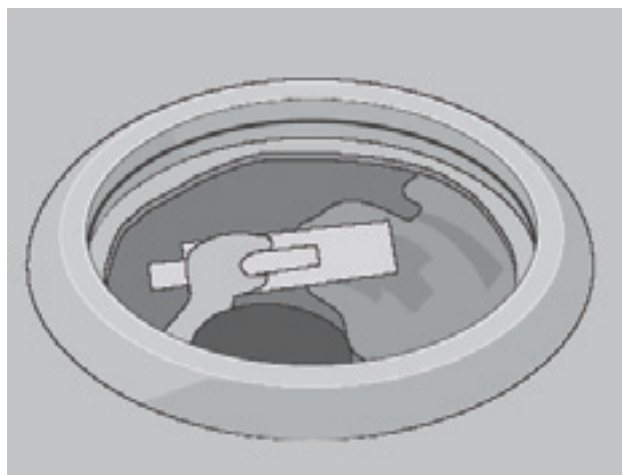

Fig. 43: Applying a final layer of mortar inside the tank
4. Apply a final layer of cement (1:2.5 cement:sand ratio) with waterproofing compound on the inside floor and walls (see figure 43), then let the entire tank cure for at least one week.